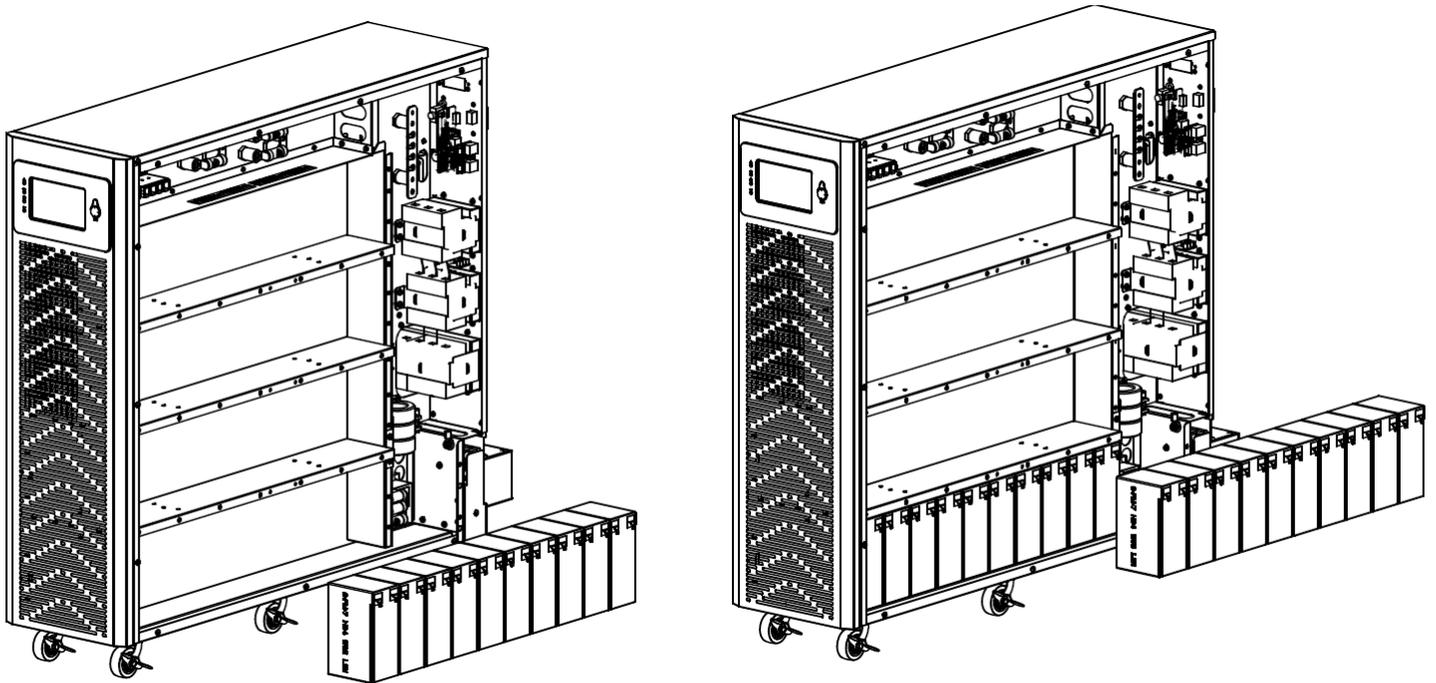

Figure 3-9: Install batteries on the first and second shelves on the right side.
- Working from the bottom up, install 10 batteries on the first and second shelves on the right side of the unit (Figure 3-9). Always keep the terminal side of all batteries facing up.